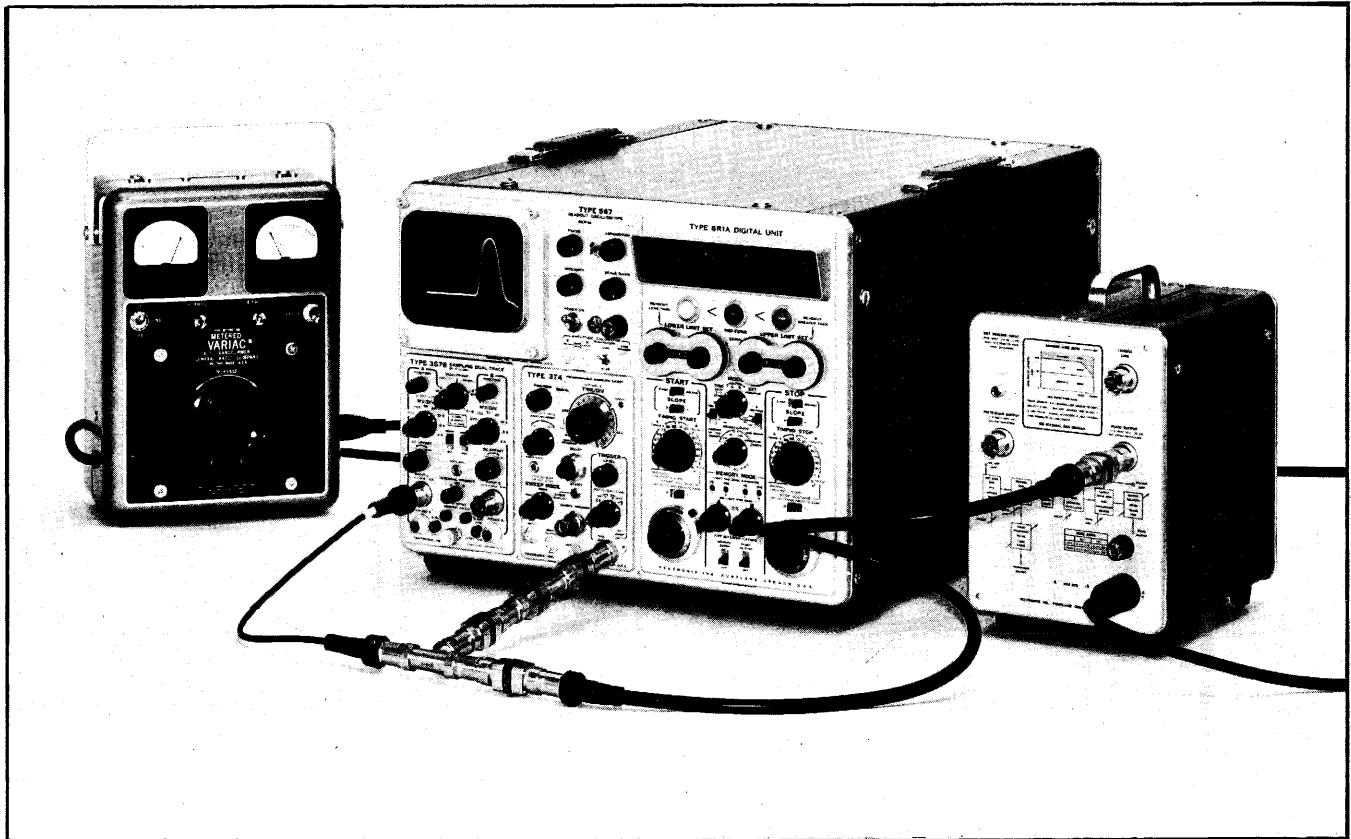

Fig. 5-45. Step 27 test setup for checking Type 3T4 ability to trigger properly on low-level short duration pulses.
Install a 10× attenuator on the Type 111 PULSE OUTPUT connector; a 50 Ω cable to the 10× attenuator, and a second 10× attenuator on the cable output end; attach the second 10× to one of the through connectors of a GR T; a 2 nsec 50 Ω cable from the other through connector of the T to the Type 3S76 INPUT A; a 5×, and two 2× attenuators to the branch arm connector of the T, with GR to BNC adapter and connected to Type 3T4 Trigger EXT INPUT connector. All connections are shown in Fig. 5-45.
a. Set up the equipment shown in Fig. 5-45 and obtain a display similar to Fig. 5-46a. Since the Type 111 output amplitude is not adjustable, measure the pulse amplitude on the crt. If it is near 100 mv peak (as in Fig. 5-46a) leave the attenuators as connected. If it is less, remove a 2× (or other) attenuator from the Trigger EXT INPUT line. The need is for at least 25 mv peak pulse to enter the EXT INPUT connector. As soon as you are certain the signal is approximately correct, proceed.